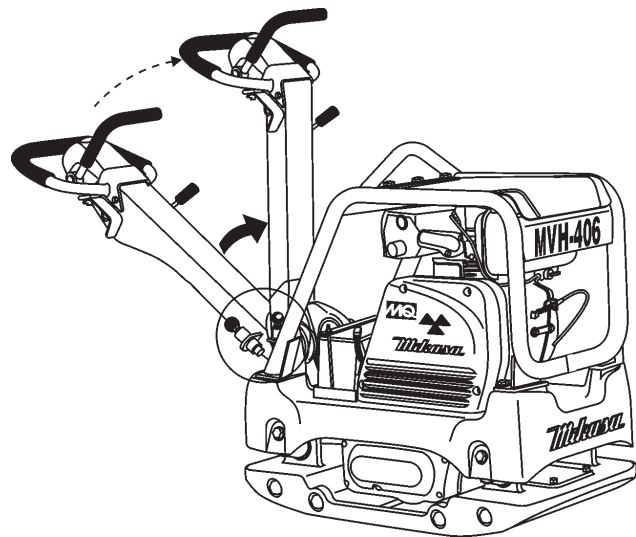

Figure 22. Stowing the Handle
1. Push up the handle upward (Figure 22) until the handle locks in place.